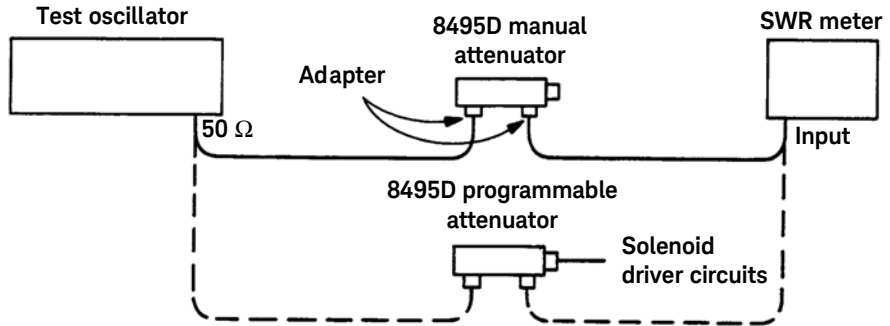

Figure 3-1 Operator’s check setup
- 1 Connect equipment as shown in Figure 3-1 with the attenuator set to 0 dB.